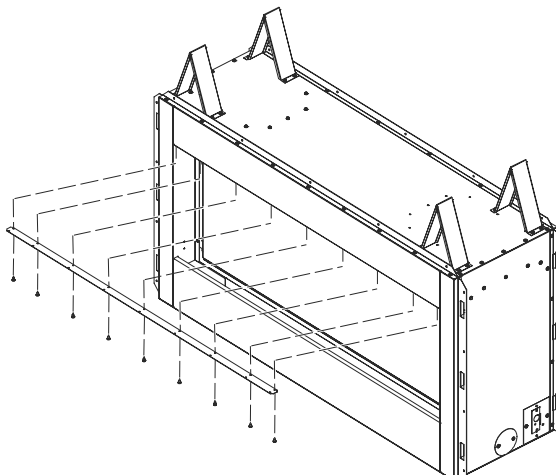

Figure 30 - Removing for See-Thru Applications
2. Unscrew mount bracket from top face as shown in Figure 30. Discard mounting bracket and replace screws.